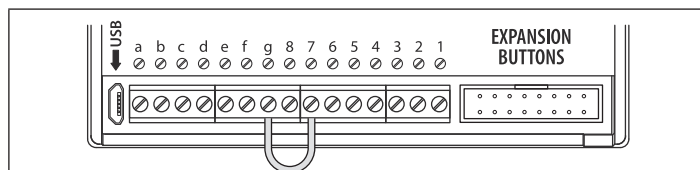

Fig. 60
2. Put a short across terminals **g** & **7** on the back of the GSM module, as shown in **Fig.60**.